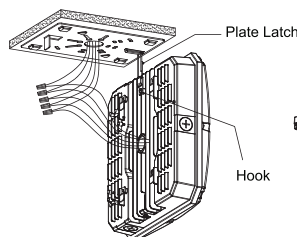

Figure 3
- Hang the fixture to mounting plate using mounting plate latch and fixture hook, and make appropriate electrical connections (Figure 3).